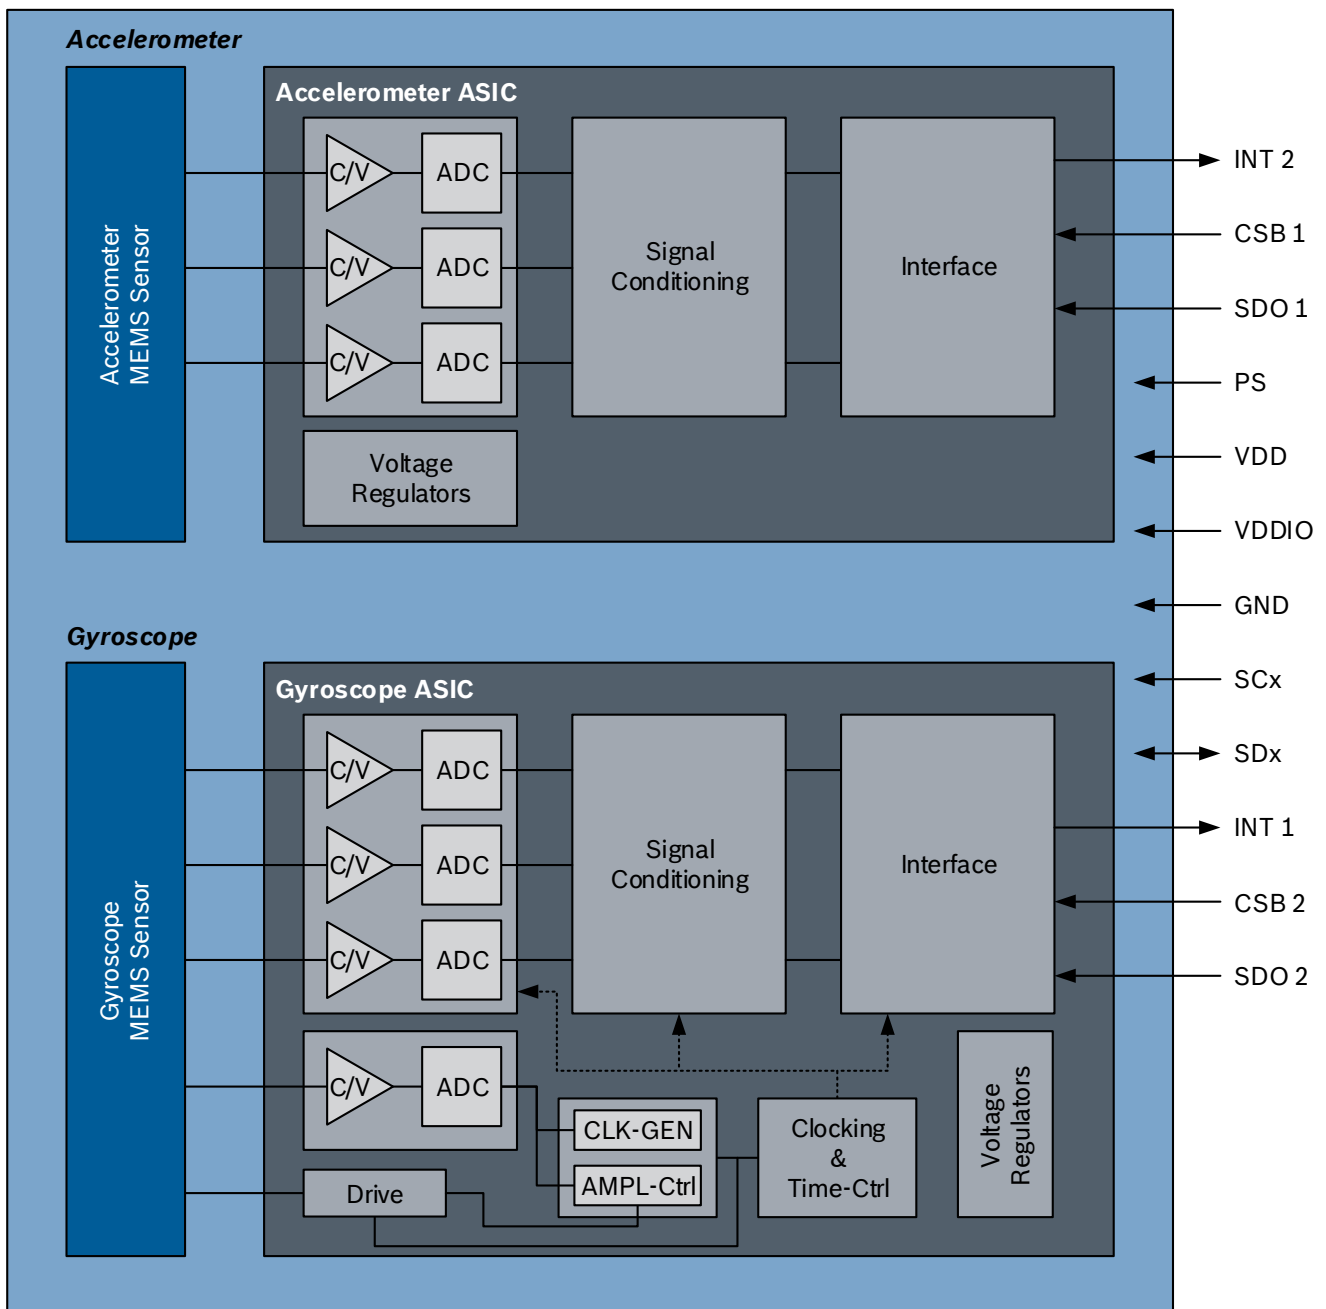

Figure 2 Simplified block diagram of the SMI130
Figure 2 shows the basic building blocks of the SMI130. As stated in section 2.1, the accelerometer and the gyroscope MEMS elements are each evaluated by their own ASIC. Both sensing elements detect voltage (V) variations, feeding into the analog-digital converter (ADC). The digital signals are further processed and accessible via SPI or TWI.